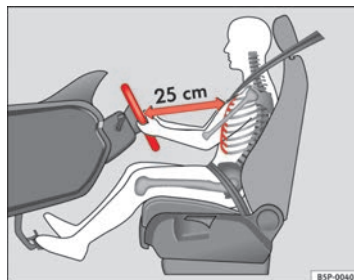

Fig. 135 Proper sitting position for driver
- Adjust the steering wheel until the correct position is set ⇒ fig. 135.
- Adjust the driver seat or steering wheel so that there is a distance of at least 25 cm between the steering wheel and your chest → fig. 135. If you fail to observe the minimum distance, the airbag will not protect you. Risk of fatal injury.